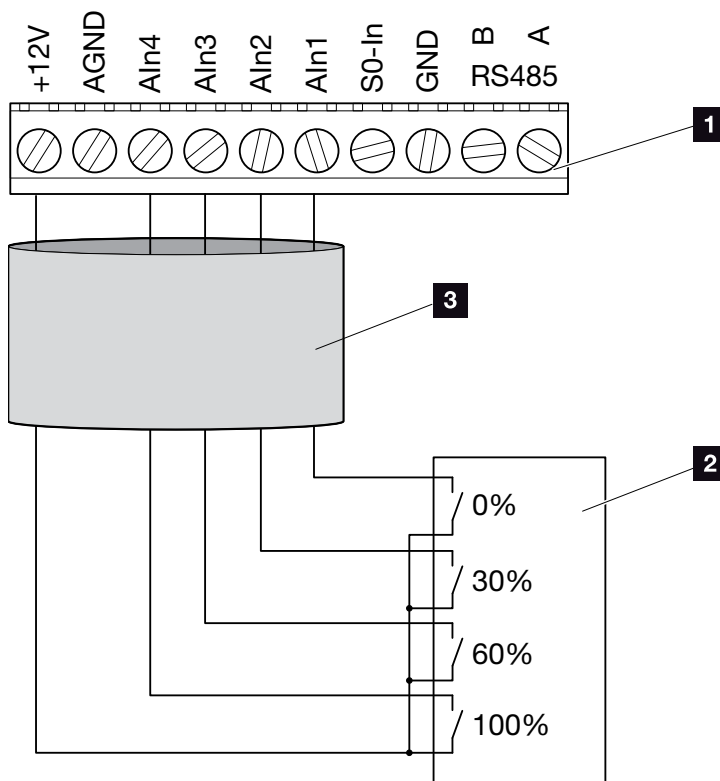

Fig. 59: Connection of ripple control receiver
3. Connect the ripple control receiver to the master inverter  **Fig. 58 It. 1** on the analog interface terminal (10-pin).  **Fig. 59**